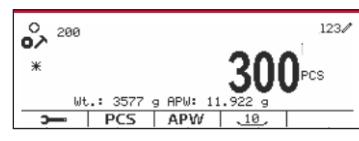

Figure 46
- Place the sample on the pan and then key in the number of pieces using the alphanumeric keypad. (See Figure 46)